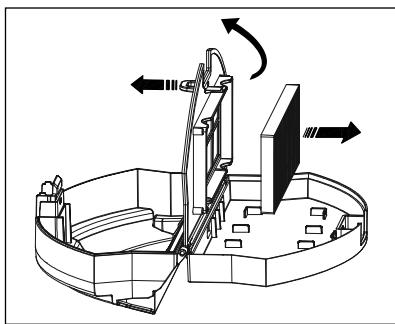

Fig. 10
- 4) Grasp the tab on the sieve filter, and open the EPA filter compartment 7. Remove the EPA filter 7 from the compartment (see Fig. 10).